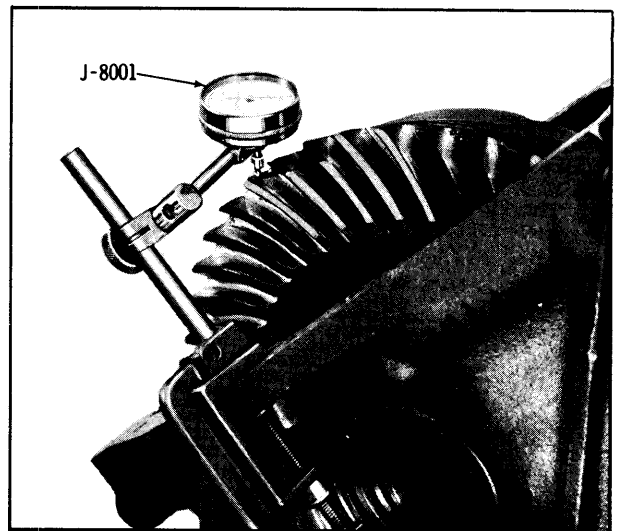

Fig. 3EC-56 Checking Ring Gear to Pinion Backlash
5. Install Spreader J-22196 on carrier and spread carrier just enough so that shim can be inserted between the spacer and the carrier. (Fig. 3EC-54)